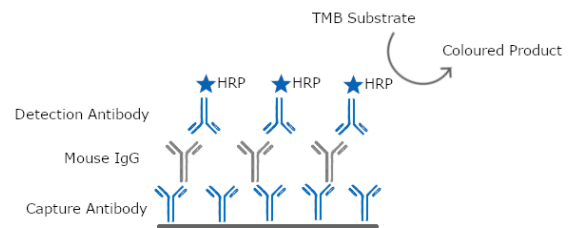

Figure 1. Schematic overview of the Mouse IgG ELISA Kit.
The assay is summarized in Figure 1 and involves a detection system that uses an HRP-conjugated Detection Antibody Solution and TMB Substrate Solution. The Substrate Solution turns blue when modified by HRP. The final step is to stop the reaction with Stop Solution, which turns the solution yellow. The optical density (OD) of the yellow solution is read at 450 nm using a microtiter plate reader.